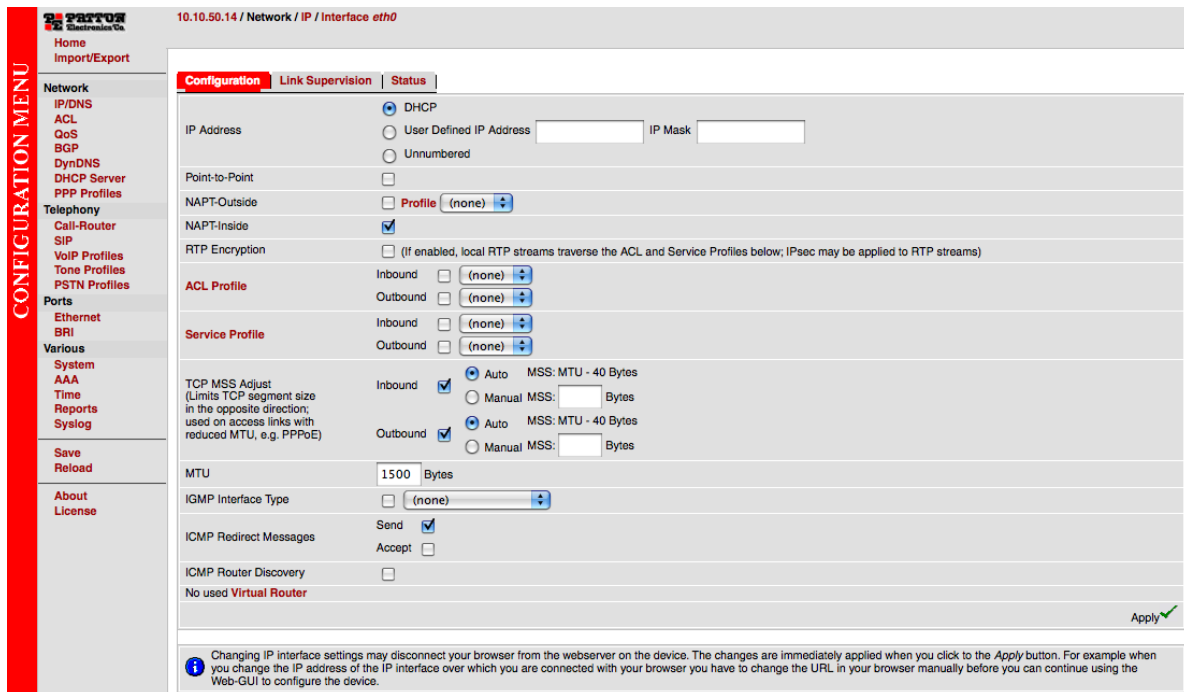

Figure 8. Ethernet Configuration page
1. In the configuration menu pane, click *IP/DNS*. In the *Interfaces* section, click on **eth0**. The Configuration screen for the Ethernet port displays (figure 8).
The SN-DTA supports two configuration options for the Ethernet connection (see figure 8), as described in the following paragraphs: